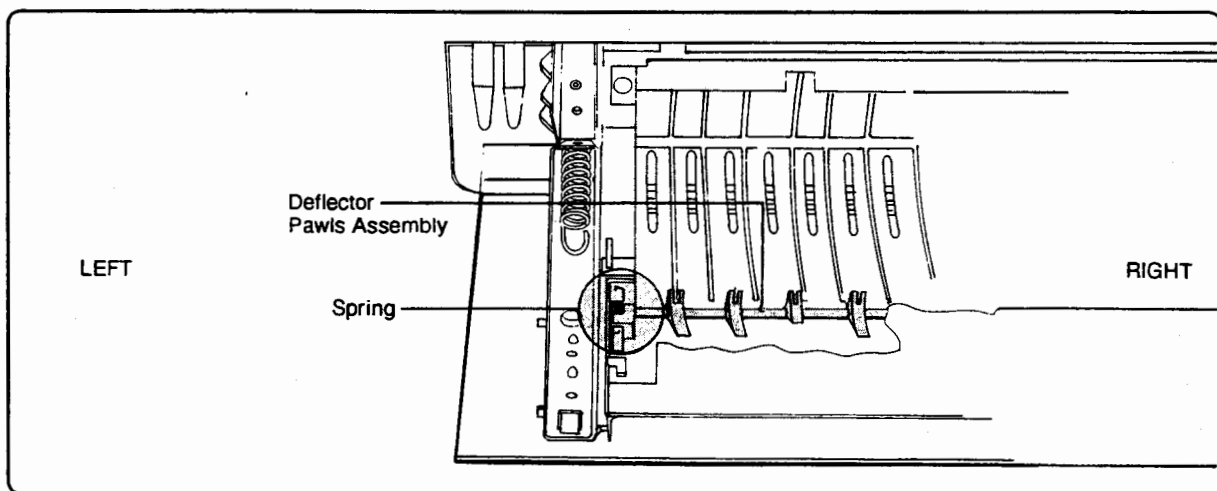

Figure 6-47. Deflector Pawls (Claws)
1. With the Top Cover Assembly fully open, pry the right end of the Deflector Pawls (Claws) shaft out of its retaining clip (see Figure 6-47).
When reinstalling the Deflector Pawls, ensure that the spring is positioned properly and that it is not damaged (see Figure 6-47).